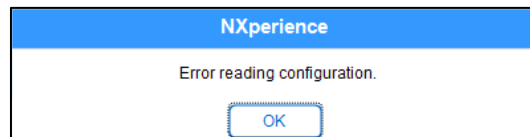

Fig. 53 – Error reading configuration
- If the **NXperience** shows an error while reading the configuration, as shown in **Fig. 53**, and the device display is off, try the procedure described in the following step.